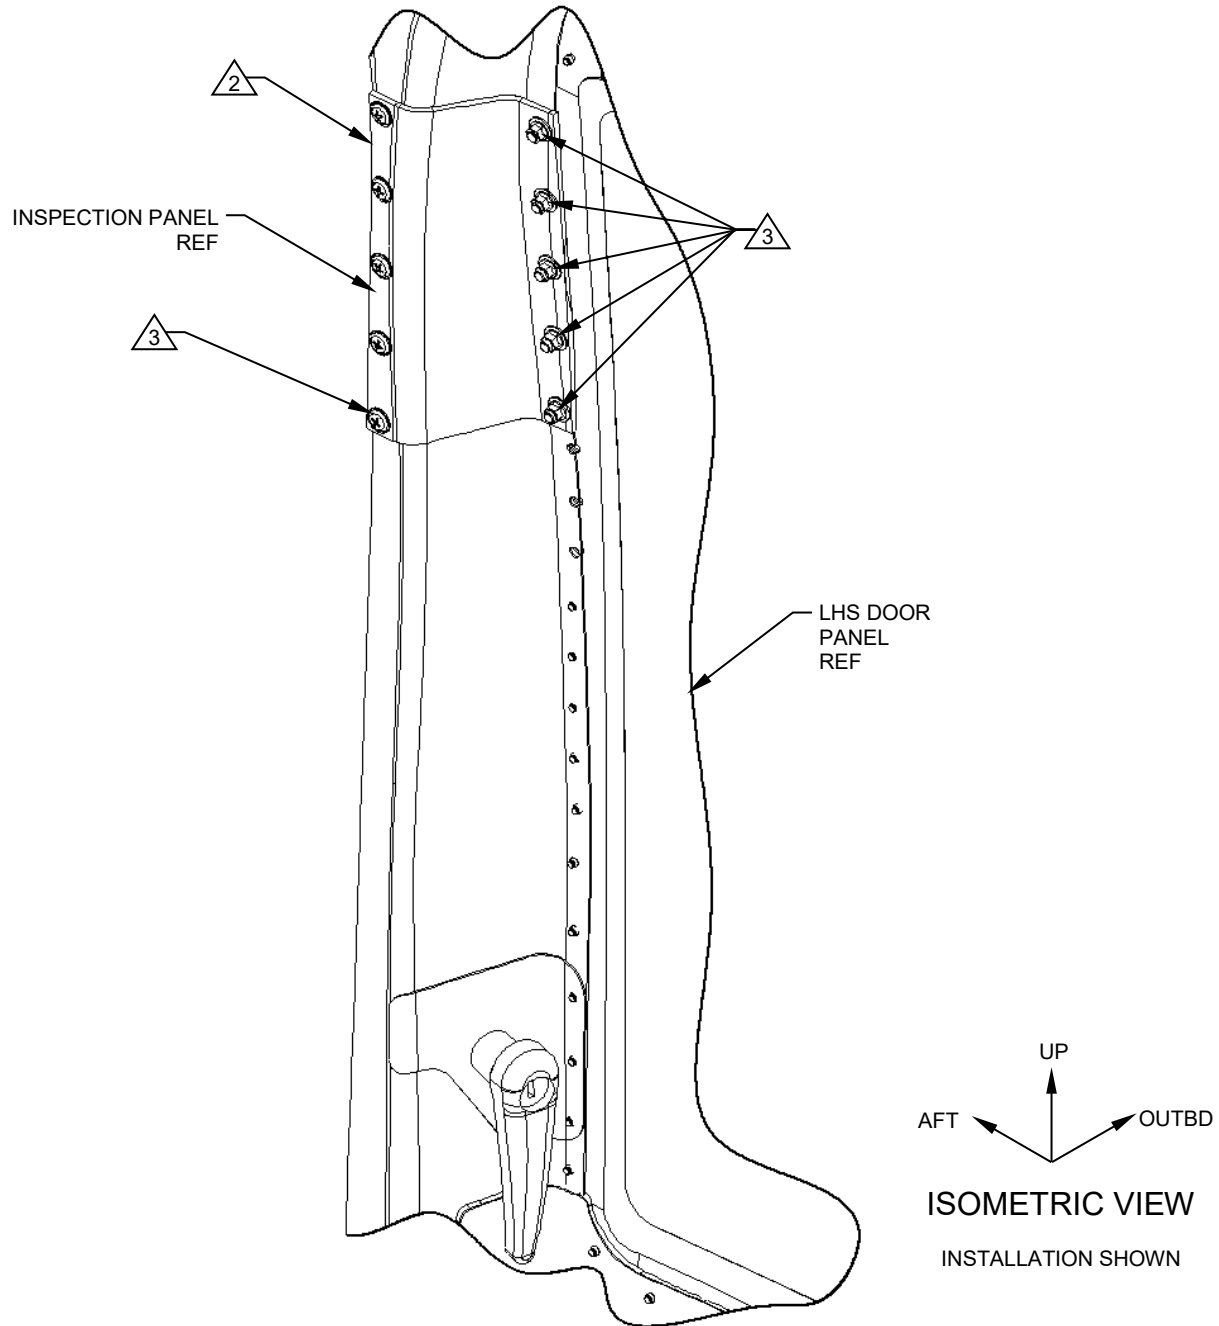

Figure 3
3. Remove and retain inspection panel, remove and discard all fasteners. Reference Figure 3.